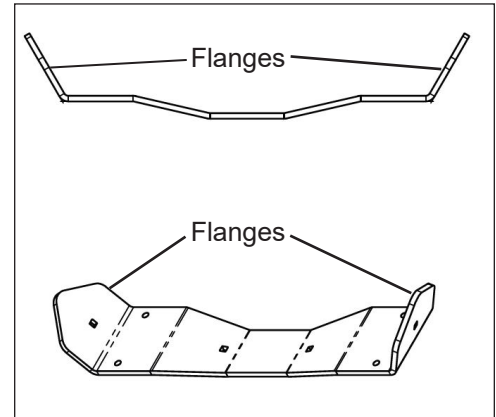

Figure 1 — Boom Stow Flanges
2. Inspect the boom rest flanges for damage (refer to Figure 1).